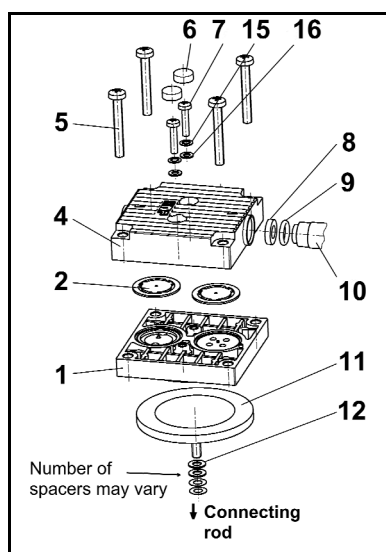

Fig. 10: Pump head
Put the sealing (fig. 10/8) into the head plate (4); push the connecting tube (10) into the hole in the head plate (4).
- i** It is necessary to ensure that the O-ring (9) lies on the end of the connecting tube.
2. Place the two pump heads that are joined by the pneumatic connecting tube(s) (10) on the housing according to the markings (M).
- i** Make sure the cover (13) is placed on the pump head and is not jammed. For this, carefully slide a small screw driver between the cover (13) and the pump head
- i** If the cover is jammed between the intermediate plate (1) and head plate (4), then the pump will not provide the nominal pneumatical performance.
3. On both pump heads: Gently tighten the screws (5), evenly and diagonally (tightening torque: 3 Nm).